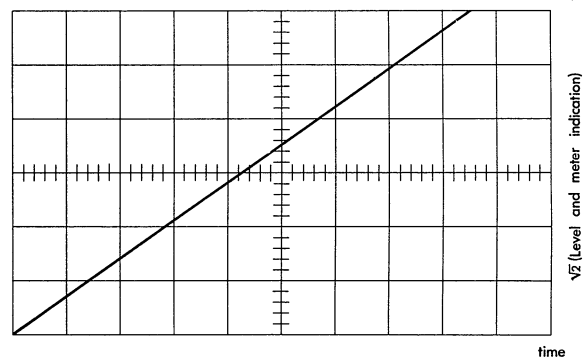

Fig.18. Oscillogram of the signal obtained at step 11.
11. Set the horizontal position of the trace on the screen, and the attenuation of the attenuator, so that the amplitude of the 10 kHz voltage is zero when the horizontal sweep starts, and increases to $\sqrt{2}$ multiplied by the value determined at step 6, when the sweep is completed. See drawing of oscillogram shown in Fig.18.